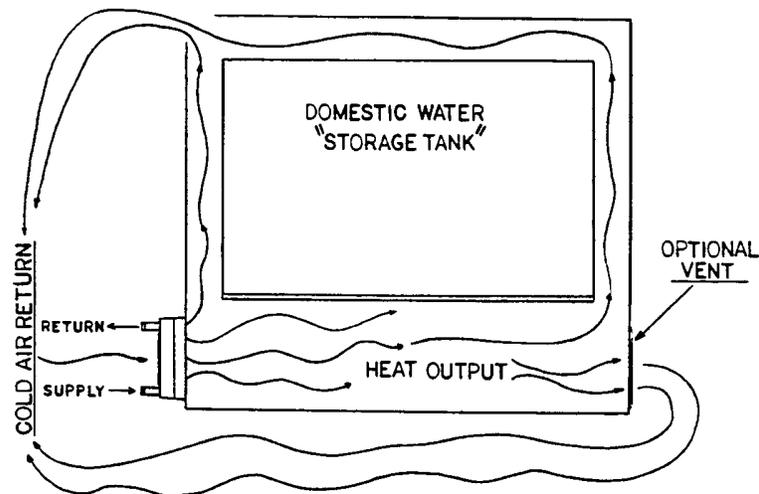

Figure 11
- A. Centralize and position the heat exchanger in the domestic water storage tank bay area so even-heat distribution will be accomplished, see Figure 11.